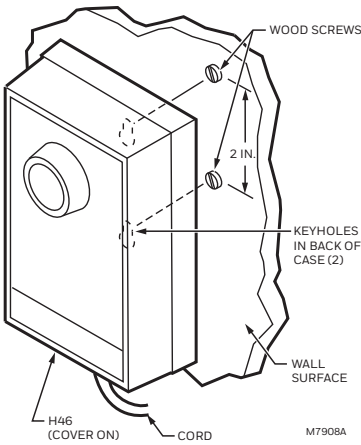

Fig. 2. Mounting H46E with two screws.
1. At the selected location, insert the two wood screws (provided) into the wall 2 in. (51 mm) vertically apart and protruding 1/16 in. (2 mm) from the wall. See Fig. 2.